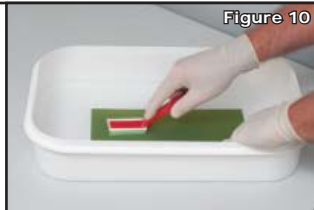

Figure 10
**11** Place the **AQUAPRO** cliché into the washout tank filled with water with the emulsion side of the cliché facing up. (Figure 10)